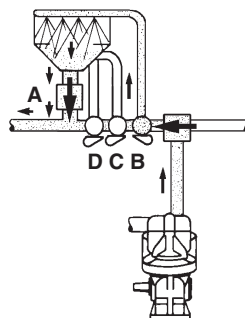

Fig 21
- 9 Engage the hopper flushing device by opening the hopper flush valve (**B** Fig 21 & **B** Fig 17).